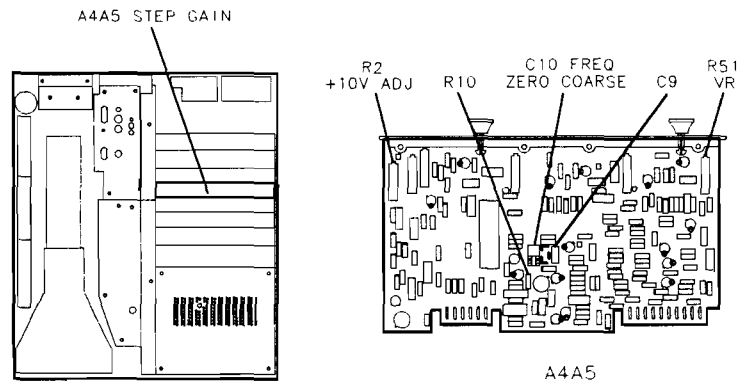

Figure 3-49.
36. Adjust A4A5R51 VR for MKR Δ level of +0.10 dB. See Figure 3-49 for location of adjustment.
40. Adjust A4A5C10 FREQ ZERO to peak signal trace on CRT. See Figure 3-49 for location of adjustment.
If A4A6A1C31 has insufficient adjustment range, increase the value of factory-select resistor A4A5R10. See Figure 3-49 for the location of A4A5R10. Refer to Table 3-3 for the acceptable range of values for A4A5R10 and to Table 3-4 for HP part numbers.